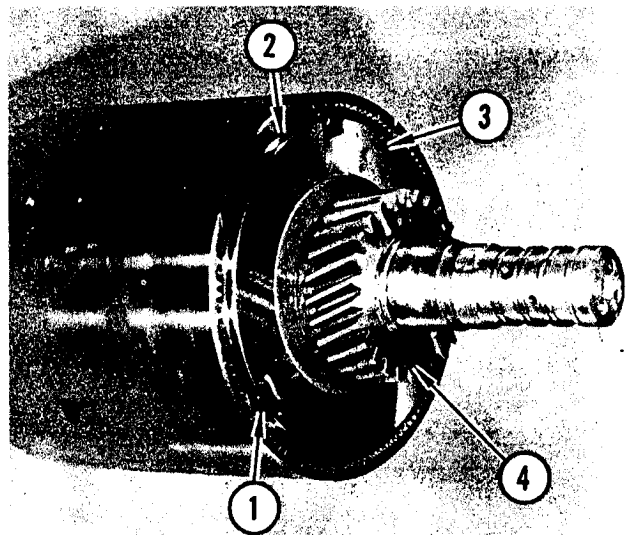

FIGURE 49. UPPER SHAFT DISASSEMBLY
Refer to Figure 49. Remove the three capscrews and lockplates (1). Remove retaining ring (2). Remove backing disc (3).